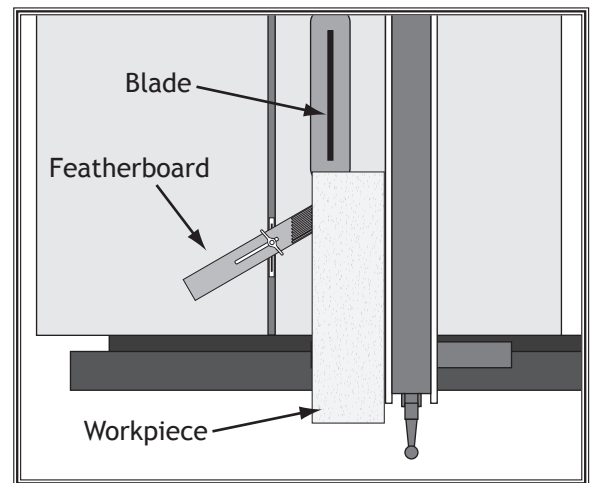

Figure 101. Example illustration of the featherboard mounted in the miter slot.
4. Slide the featherboard miter bar into the miter slot, making sure the fingers slant toward the blade, as illustrated in **Figure 101**.